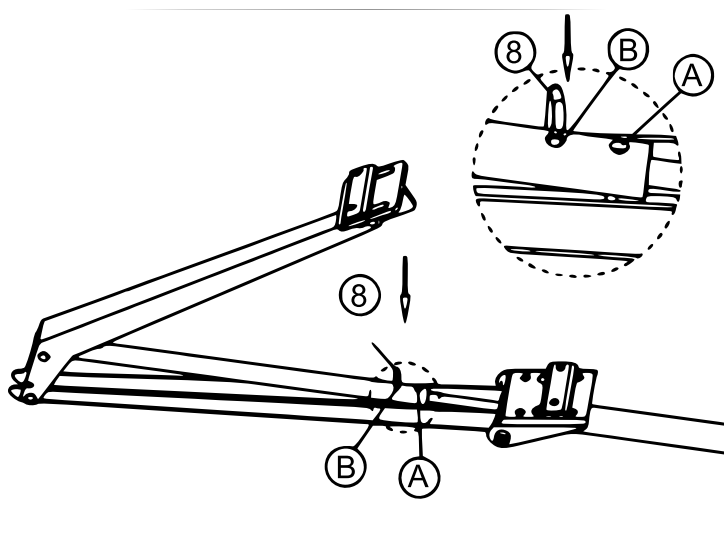

Figure 5
- **If the window can be opened by at least 40 cm:** Place the piston rod (3) into the thrust rod (6). Push the splint (8) through 2 holes: the hole of the piston rod and the hole "B" of the thrust rod (6) (see fig. 5).